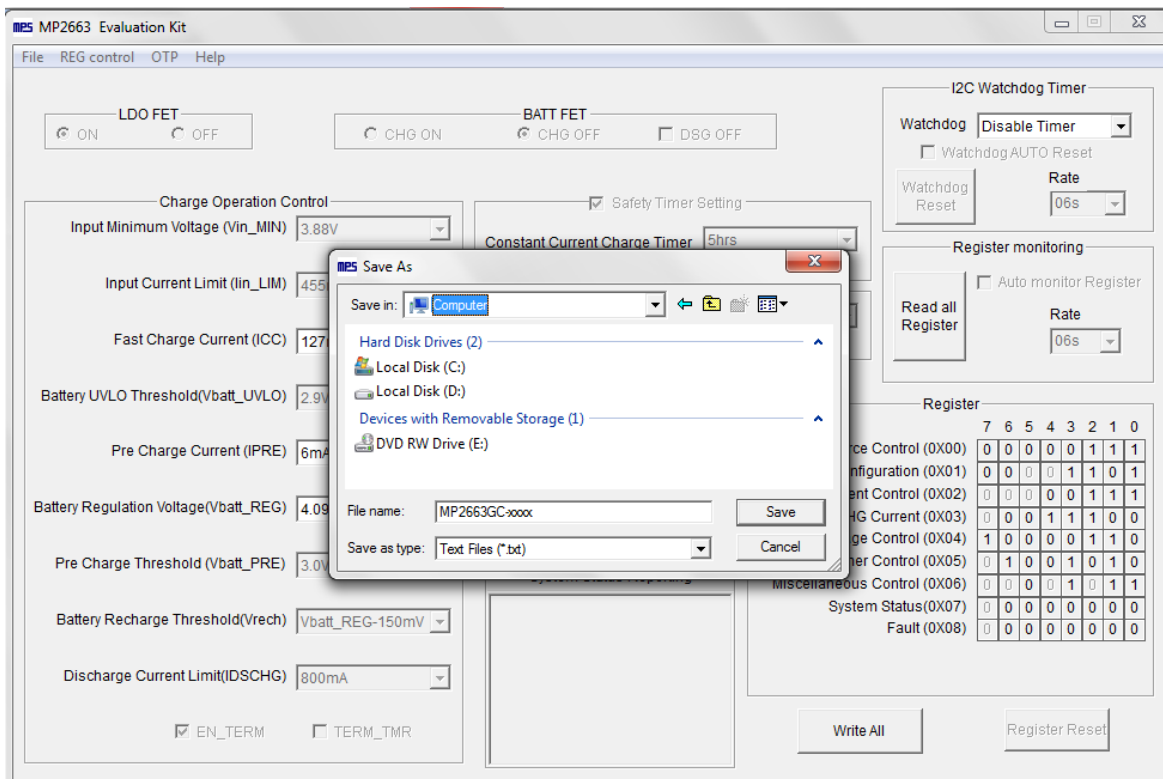

Figure 11: Various Export Locations Available
- Find a location for the exported file and click “Save”. Your configurations will be saved in a .txt file (see Figure 11).